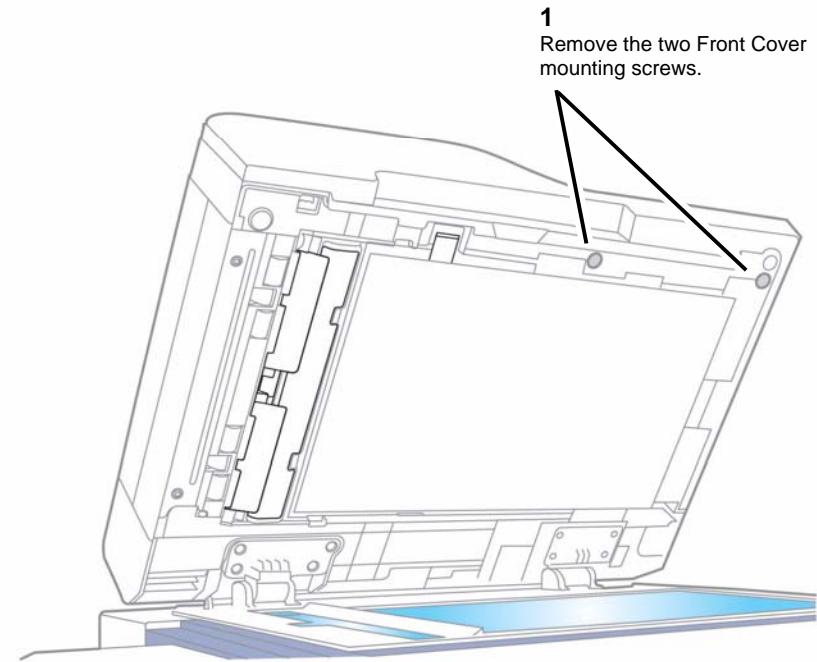

Figure 5 Removing the Front Cover Mounting Screws
7. Open the DADF and remove the two Front Cover mounting screws (Figure 5).